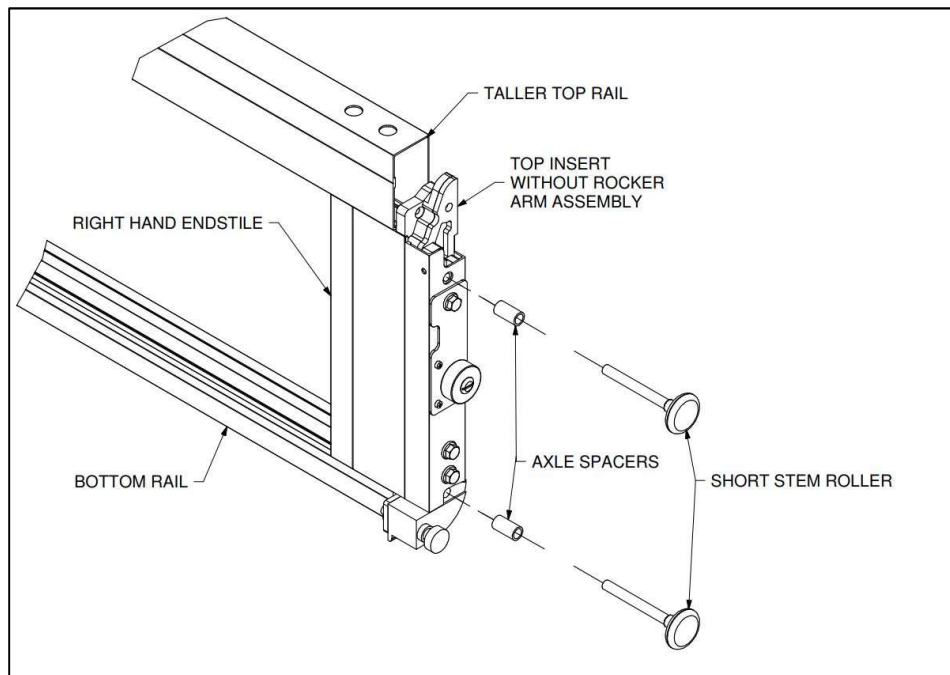

Figure 25– TOP SECTION
67. The top section is taller than the intermediate section and does not have rocker arm assemblies. See **Figure 25**.